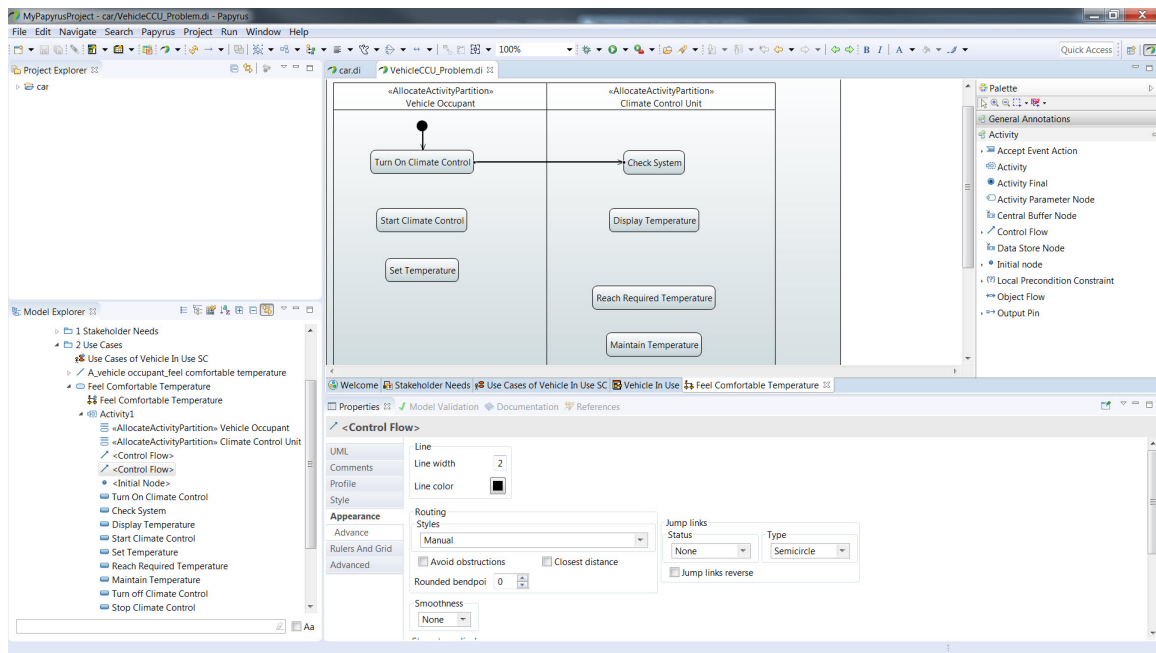

Figure 50: Control Flow
19. Now we will start adding our control flows to these actions. In the activity palette on the right Click on **Control Flow**. Now Click on the *Initial Node* in the activity diagram and then Click on the *Turn On Climate Control* action. Just hit <Enter> for the name as we will not name this control flow (I will call this an unnamed control flow from now on). A control flow will be added between these items (figure 50). If you would like the control flow line to be a little thicker you can select the **Appearance** tab in the *Properties* window and increase the value of the **Line width** parameter. Create another control flow between the *Turn On Climate Control* action and the *Check System* action (figure 50).